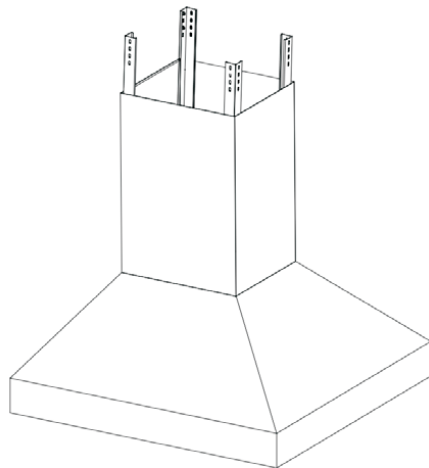

Fig.6
6. Insert the chimney extension into the hood as shown Fig.6.